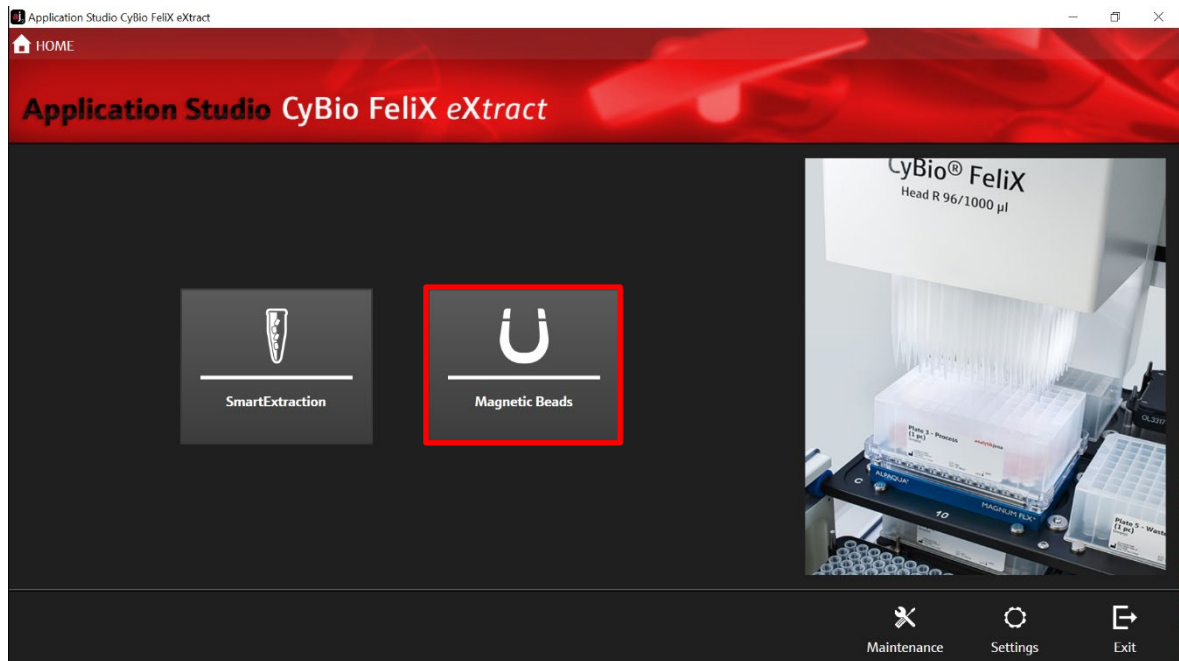

Figure 11: Homescreen of the AppStudio Felix eXtract. Selection of Magnetic Beads
3. Select "Magnetic Beads" (→ see Figure 11).